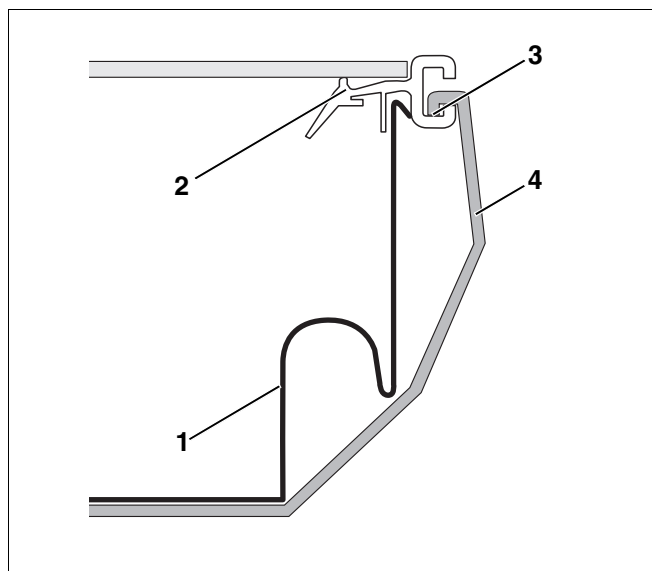

Fig. 33 Inserting the first collector
- ▶ Slide the collector (Fig. 33, **Item 1 und 2**) down in front of the antislip device (Fig. 33, **Item 4**). Slide the antislip device up until the edge of the antislip device locks into the groove (Fig. 33, **Item 3**) in the collector frame.